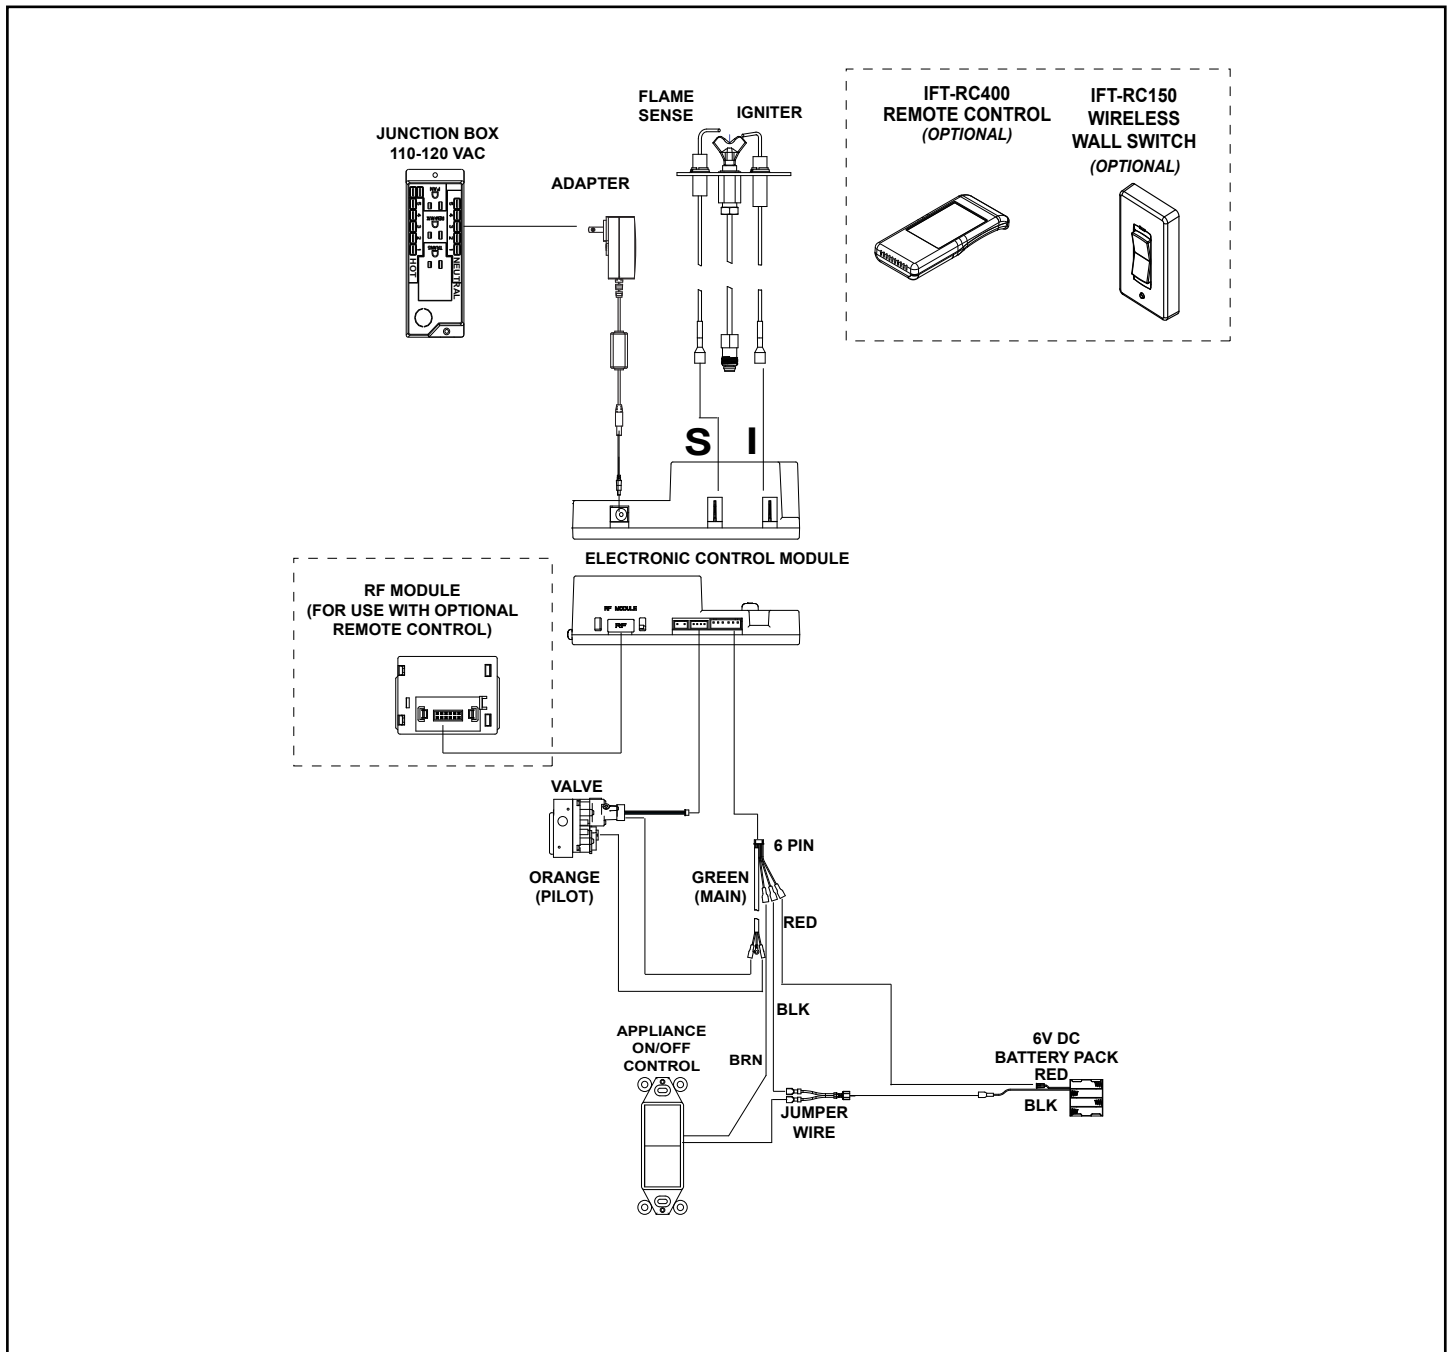

Figure 8.2 IntelliFire™ Touch Wiring Diagram
- Refer to Figure 8.2 IntelliFire™ Touch (IPI) Wiring Diagram.